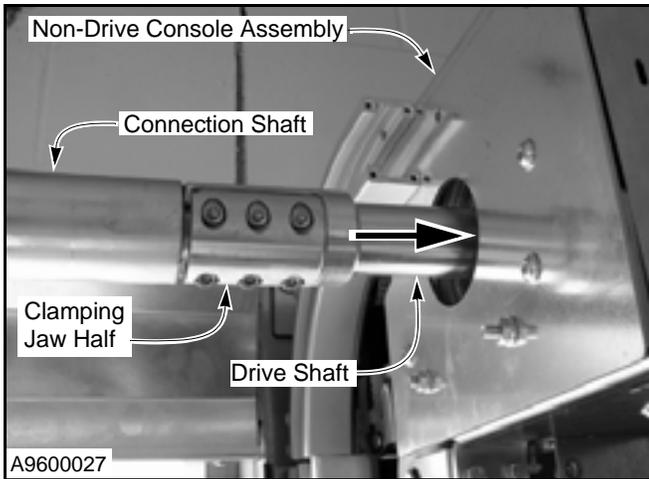

Figure 31
- Insert the opposite end of the connection shaft into the drive shaft and install the clamping jaw half. Provide an equal gap on both ends between the drive shaft and connection shaft. (See Figure 31.)